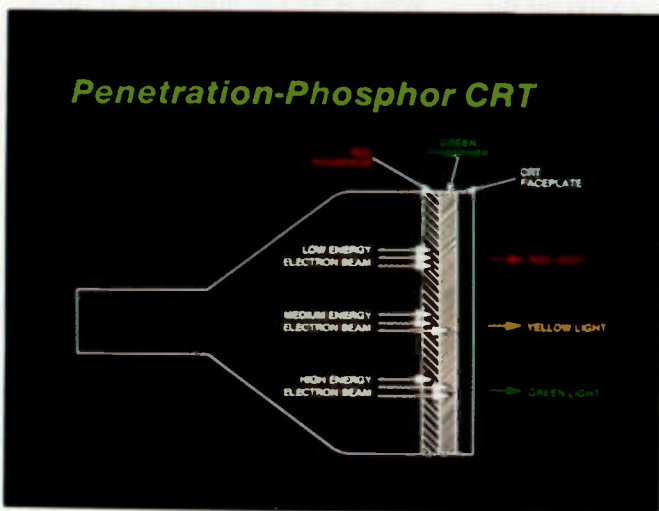

Figure 1. The penetron phosphor CRT.
1). Each layer of phosphor requires a different energy level to activate it. In one method, shown in Figure 1, the red phosphor acts as an energy barrier